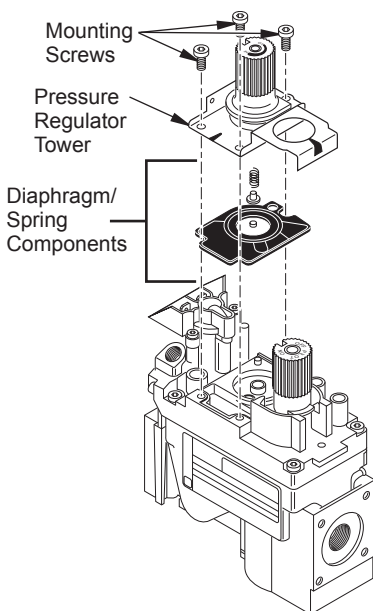

Figure 58 - Removing Mounting Screws, Regulator, Tower, and Diaphragm/Spring Components
1. Using a Torx T20 or slotted screwdriver, remove and discard three mounting screws, pressure regulator tower, and diaphragm/spring components (see Figure 58).